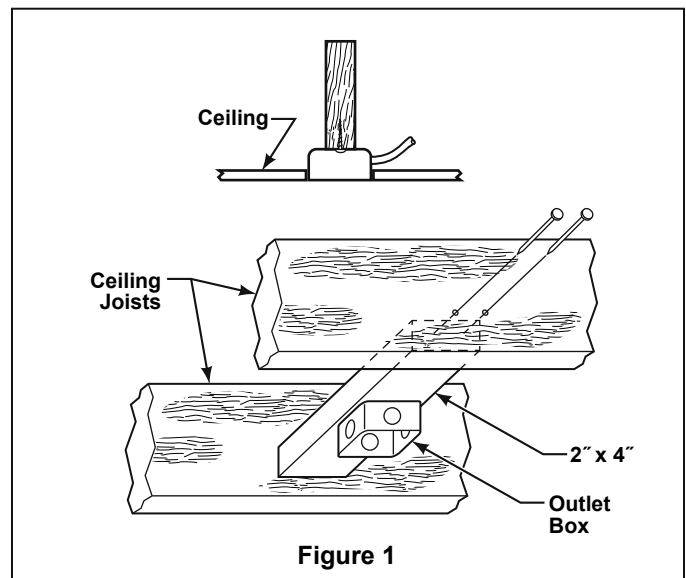

Figure 1
- Blade Holder Arms (5)
- Blade (5)
**NOTE:** If you are uncertain of part description, refer to exploded view illustration. (Figure 1, page 13)
Your new ceiling fan will require a grounded electrical supply line of 120 volts AC, 60 Hz, 15 amp circuit. The outlet box must be securely anchored and capable of withstanding a load of at least 50 lbs. **Figure 1** depicts different structural configurations that may be used for mounting the outlet box.
2. Remove the Hanger Ball by loosening the setscrew in the Hanger Ball until the ball falls freely down the Downrod. (Figure 1) Remove the Pin from the Downrod, then remove the Hanger Ball. Retain the Pin and Hanger Ball for reinstallation in Step 7.